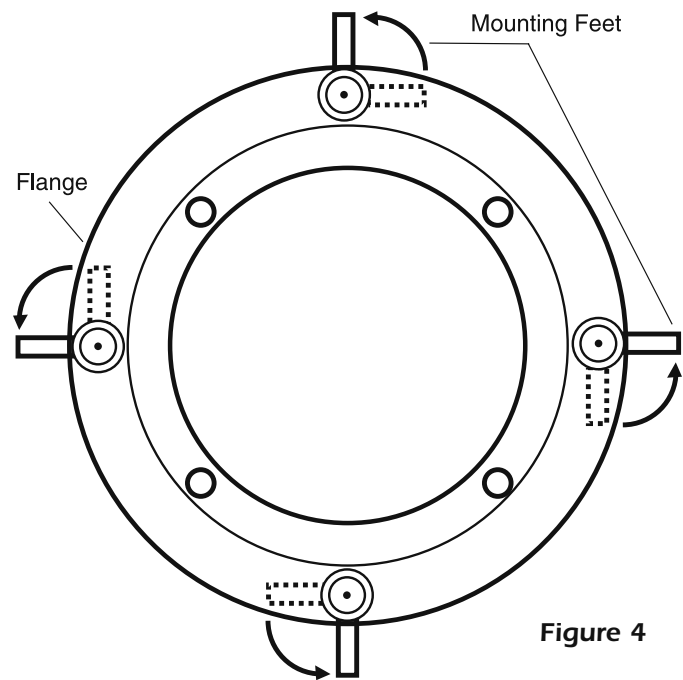

Figure 4
3. Make sure the mounting feet are turned inward to clear the opening, and insert the speaker into the ceiling. Position the speaker into the hole. Note: The flange of the speaker is designed to flex and conform to any small imperfections in the ceiling surface. Tighten the 4 screws on the front of the baffle only enough to make the flange become snug against the ceiling. As you tighten the screws, the feet will automatically flip into an outward position (See Figure 4), clamping the drywall between the feet and the flange.